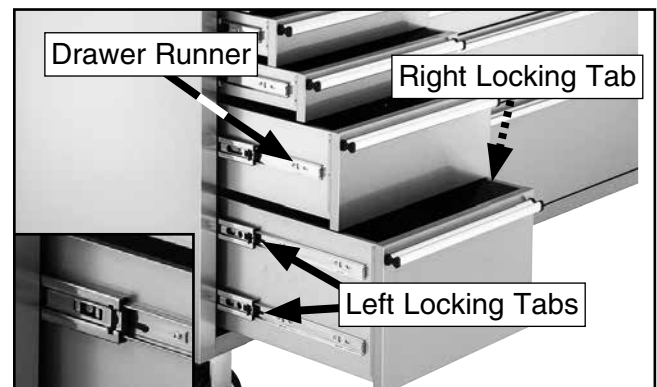

Figure 5. Location of drawer locking tabs.
2. Push left locking tab down and hold, then pull right locking tab up and hold (see **Figure 5**).
4. To re-install, insert drawer runners into slides (see **Figure 5**) and push drawer completely in. Locking tabs will automatically snap into place to secure drawer in slides.